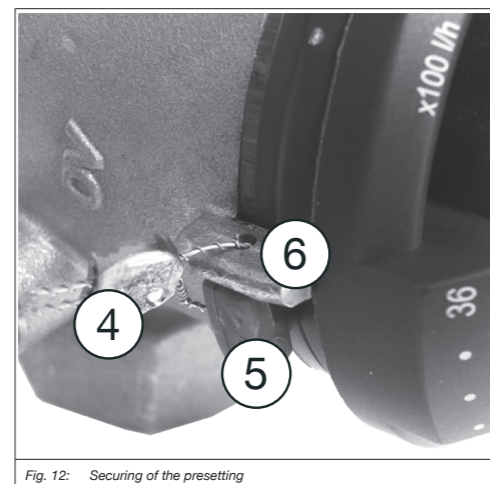

Fig. 12: Securing of the presetting
1. Remove the locking ring (3).
2. Push the handwheel (2) and turn it until the nominal value marking (1) is in line with the required flow rate (the handwheel will snap back into the cogs).
3. Refit the locking ring (3).
i As an option, the locking ring (5) can be lead locked at the nominal value marking (6) with the help of the lead sealing set (4) (accessory, item no. 1089091) (see Fig. 12)